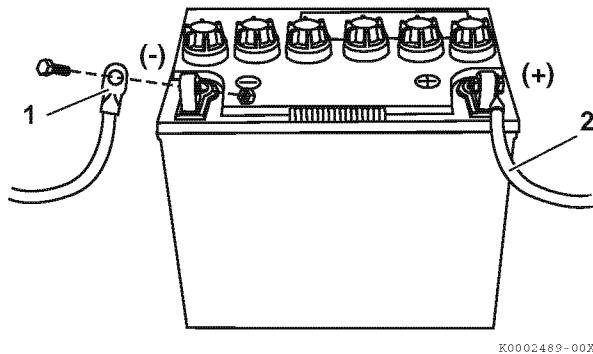

Figure 20
1. When disconnecting cables, loosen and disconnect negative (–) cable (1, **Figure 20**) first from battery.
2. Disconnect positive (+) cable (2, **Figure 20**) from battery last.